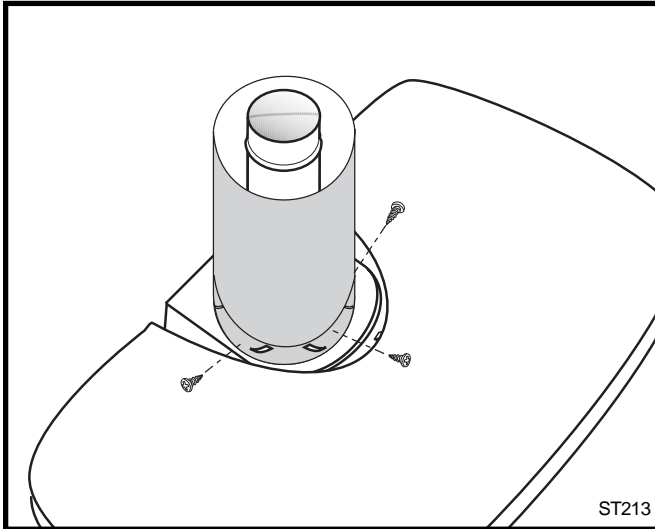

Fig. 25 Fasten outer pipe with #12 x 1/2" sheet metal screw.
5. Install the Outer Adapter Pipe. Apply a 1/4" bead of cement around the inside wall of the pipe, about 1" from the end. Insert the pipe over the stove flue collar, keeping the vertical seam oriented to the back of the stove. Also, be sure to align holes on the pipe with the holes on the flue collar of the firebox. Fasten the pipe to the holes in the flue collar with the #12 x 1/2" sheet metal screws provided. (Fig. 25)